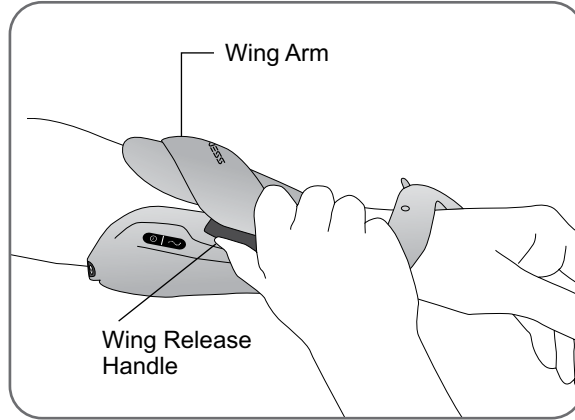

Figure 10-2: Opening the Extensor Wing
3. Pinch the Wing Release Handle and Wing Arm together and open the Extensor Wing. See Figure 10-2.